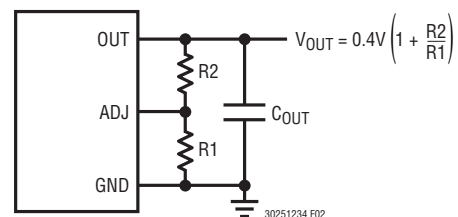

Figure 2. Programming the LTC3025-1
**ADJ (Pin 5) LTC3025-1:** Adjust Input. This is the input to the error amplifier. The ADJ pin reference voltage is 0.4V referenced to ground. The output voltage range is 0.4V to 3.6V and is typically set by connecting ADJ to a resistor divider from OUT to GND. See Figure 2.
The output voltage is set by the ratio of two external resistors as shown in Figure 2. The device servos the output to maintain the ADJ pin voltage at 0.4V (referenced to ground). Thus, the current in R1 is equal to  $0.4\text{V}/R1$ . For good transient response, stability, and accuracy, the current in R1 should be at least 8 $\mu\text{A}$ , thus the value of R1 should be no greater than 50k. The current in R2 is the current in R1 plus the ADJ pin bias current. Since the ADJ pin bias current is typically <10nA, it can be ignored in the output voltage calculation. The output voltage can be calculated using the formula in Figure 2. Note that in shutdown the output is turned off and the divider current will be zero once  $C_{OUT}$  is discharged.